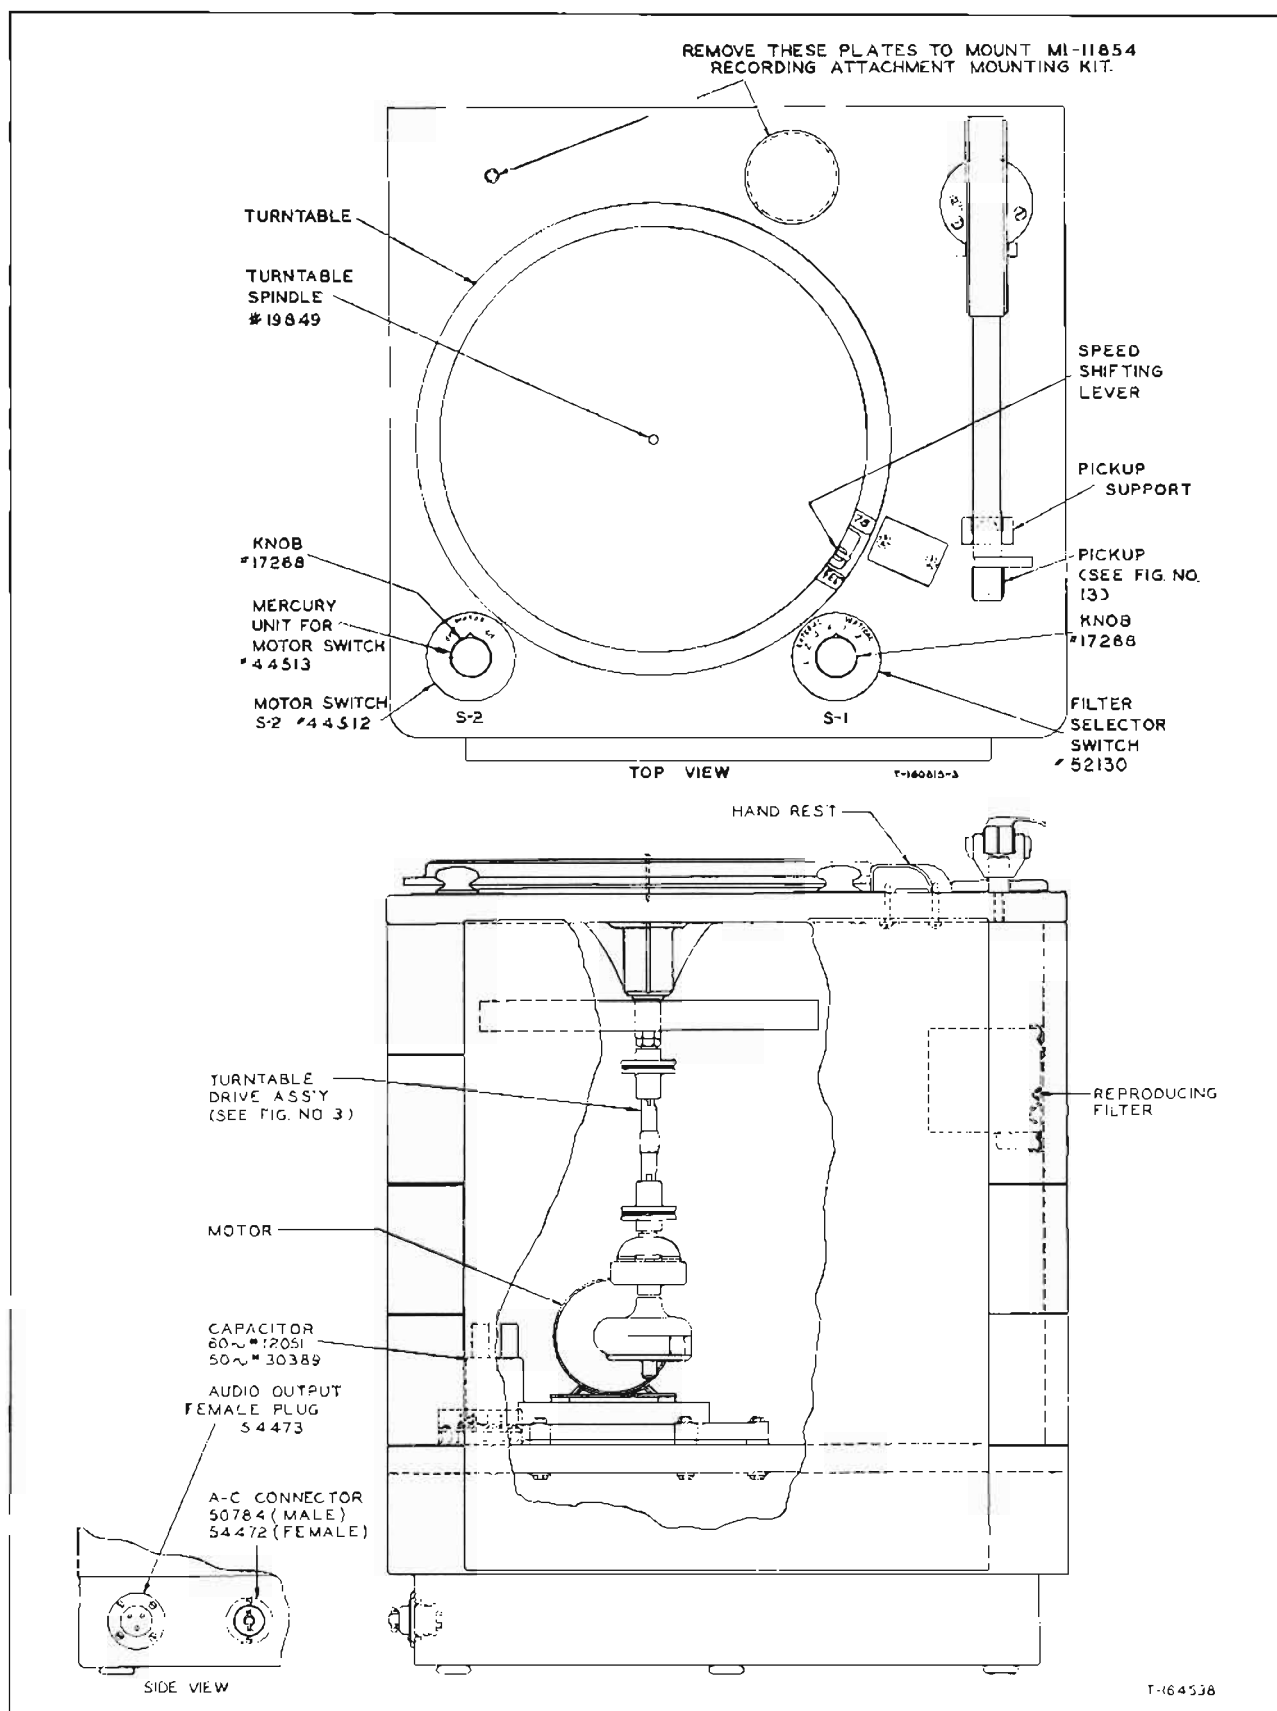

Figure 2—Top and front views of Type 70-D Turntable.
27. Remove the a-c plug from its receptacle (fig. 2). Connect an a-c power supply of the voltage and frequency specified under *Technical Data* to this plug. Fit the plug into the receptacle.
28. A standard 3-terminal Cannon female plug (fig. 2) is intended for output connections. A suitable male receptacle should be used for connection to this plug. Use shielded leads for the connections to this receptacle. Connect the output leads to terminals number 1 and 2, and the shield lead to terminal number 3.